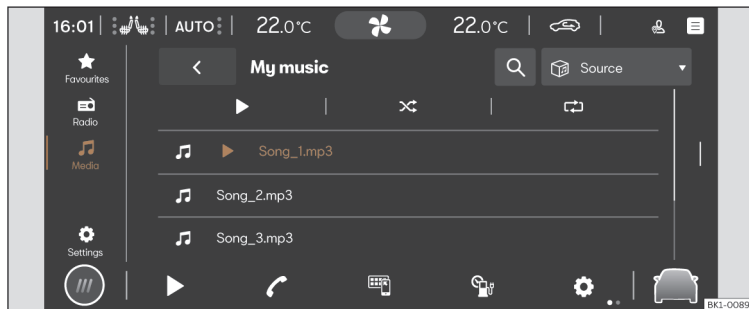

Fig. 130 Schematic representation: Multimedia view
- Press **HOME** > **▶ > 🎵 >>>** **Fig. 130**.